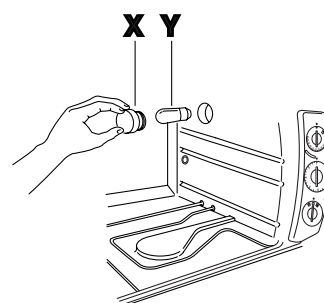

fig. 13
- unscrew the protective glass cover (X), by turning it anti-clockwise, and replace the bulb (Y) with a new one of the same type (see Fig. 13). Replace the protective glass cover (X).